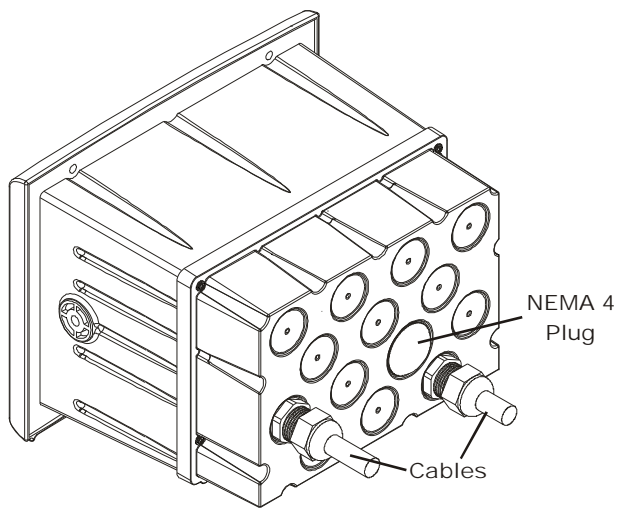

FIG. 89: REAR COVER, NEMA 4 PLUGS, AND CORD GRIPS INSTALLED
- Step 8. Use a box end wrench and tighten the Cord Grip Assembly Nut until the cables when tugged do not come out of the Cord Grip. (See Fig. 89)
- Step 9. Install the NEMA 4 plugs in empty holes if necessary. (See Fig. 89)